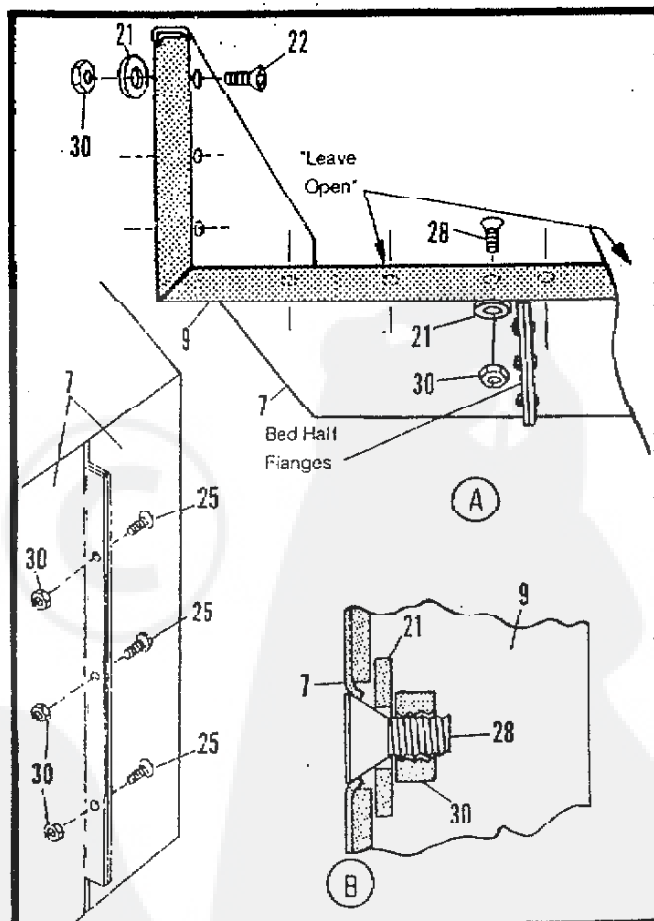
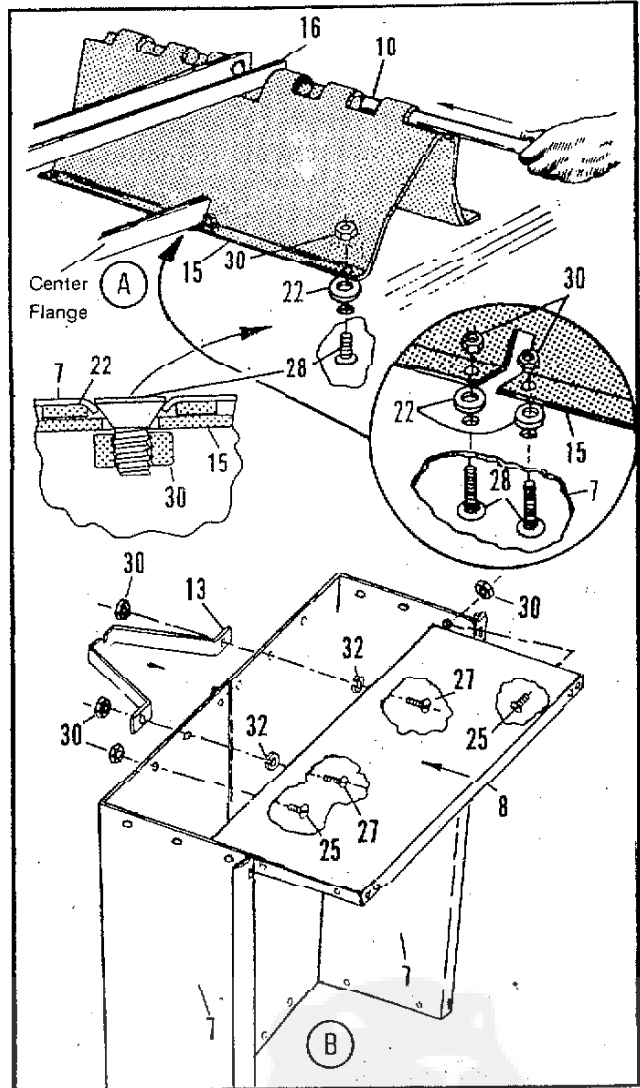

Fig. 1
Fig. 2
Refer to Fig. 1
Refer to Fig. 2
- Attach Axle Support Bracket (15) to bottom of Bed by inserting 5/16" x 3/4" Flat Head Screws (28 - from inside of Bed), 5/8" Flat Washers (22 - BETWEEN Bracket and Bed) and 5/16" Nylon Insert Nuts (30) at each hole.
- Align six holes in sides of End Panel and Bed Halves and insert 5/16" x 1/2" Round Head Screws (25 - from inside of Wagon Bed), securing with 5/16" Nylon Insert Nuts (30). Do not tighten!
- Place two 5/16" Lock Washers (32) inside the "Dimpled" Projections in End Panel (Between Bed Halves and End Panel) and insert a 5/16" x 1" Round Head Screw (27) through these and the Bed Halves.
- Secure with two 5/16" Nylon Insert Nuts (30). Do not tighten!
- Align remaining holes in End Panel and Bed Halves and insert 5/16" x 1/2" Round Head Screws (25 - from inside of Wagon Bed), securing with 5/16" Nylon Insert Nuts (30). Do not tighten!
- Lay the Cart upside down on a flat smooth surface (to insure a level bed) and securely tighten all fasteners used in Fig. 1 and Fig. 2.
- Note: It is necessary to tighten each Flat Head Screw (28) until the head is flush with the bed surface. See illustration "B", Fig. 1 or Fig. 2 - illustration "A".
- While the Cart is upside down, lay the Drawbar (16) (with flanges up) in the Axle Support Bracket (15) "cut-out" and on the Lock Bracket (13). See illustration "A".
- Line up the holes in the two flanges of Drawbar with the Axle Guides formed in the Axle Support Bracket (15).
- Guide the Axle (10) through until there is an equal amount of Axle extending from both sides of Axle Support Bracket (15).